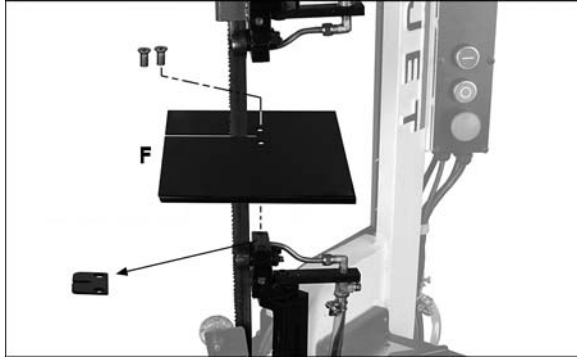

Figure 5
3. Remove two screws and remove seat plate, as shown in Figure 5.
4. Guide blade through slot in vertical cutting plate (F, Figure 5), and tighten with the two screws.